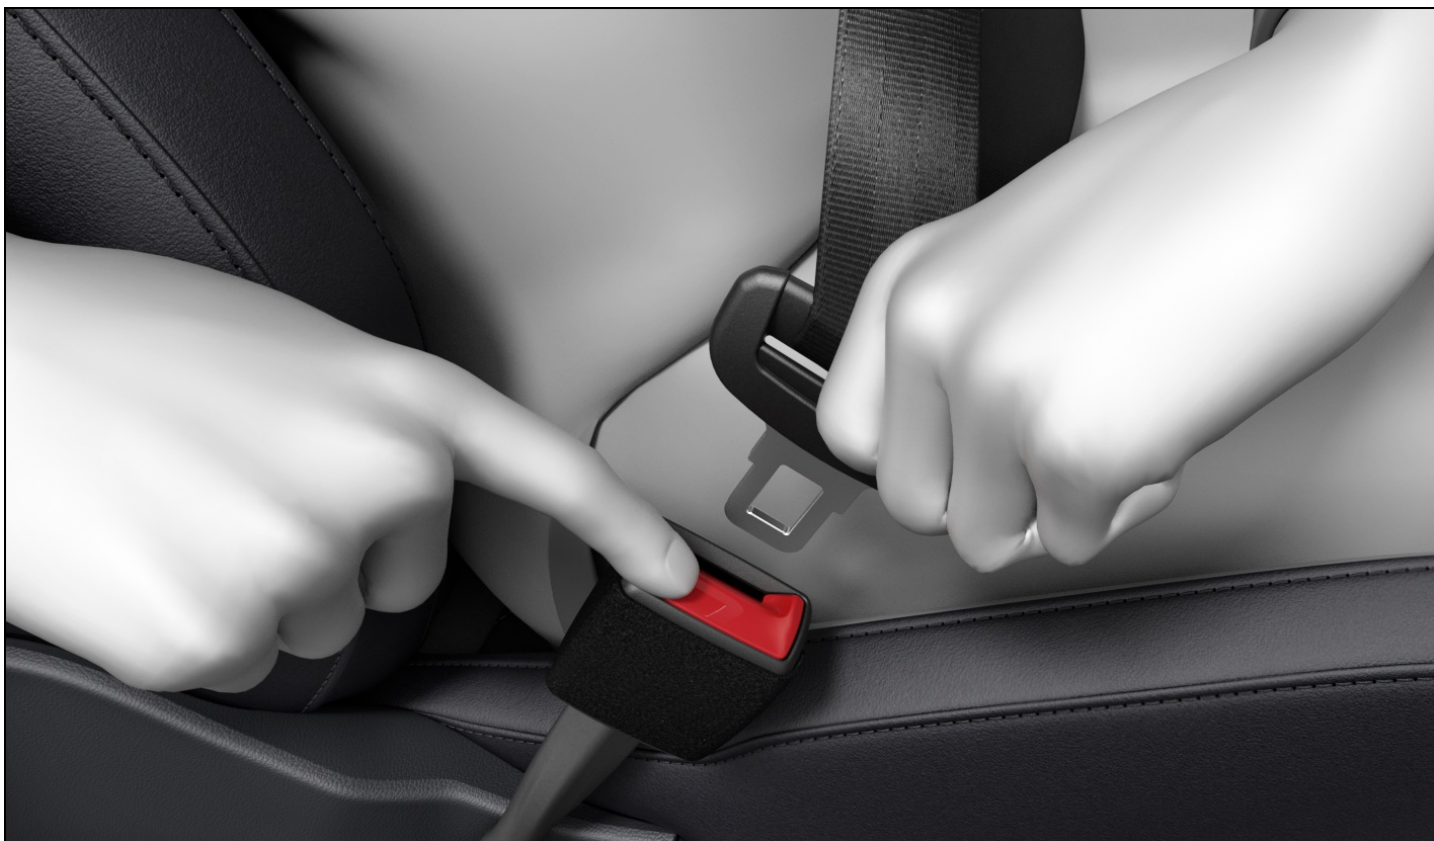

Fig. 25 Releasing the buckle tongue from the safety belt buckle (general example).
1. Press the red button in the safety belt buckle *fig. 25*.